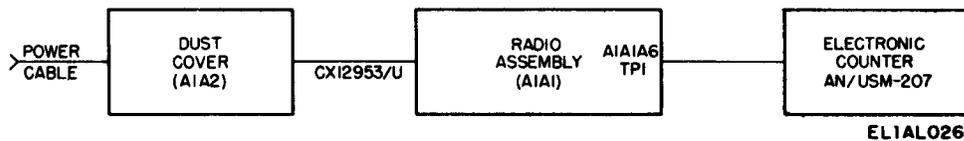

Figure 6-18. Calibration oscillator test connections.
- b. Connect the test equipment as shown in figure 6-18.